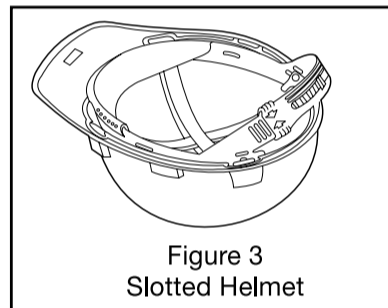

Figure 3
4. Line up the clips with the slots. Push each of the four clips into its slot (Fig. 3). You should feel and hear them snap into place.